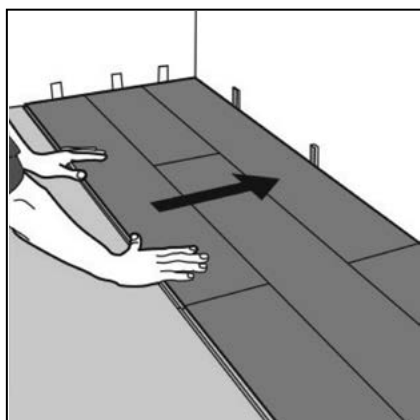

Figure 53 Second plank, second row
- ▶ Remember to place spacers to ensure the correct expansion gap has been left at the walls; (Fig 53). Continue in this way to the last row.